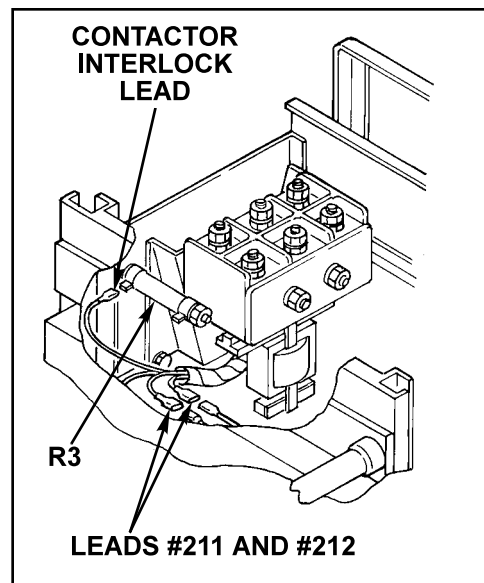

FIGURE F.21 - Lead #211 and #212 Quick Disconnects
3. Remove the contactor interlock leads from quick disconnects (leads 211 and 212) and from resistor R3. See Figure F-21 and refer to Wiring Diagram.
2. Attach leads to contactor interlock. Connect quick connects on leads #211 and #212. See Figure F.21.